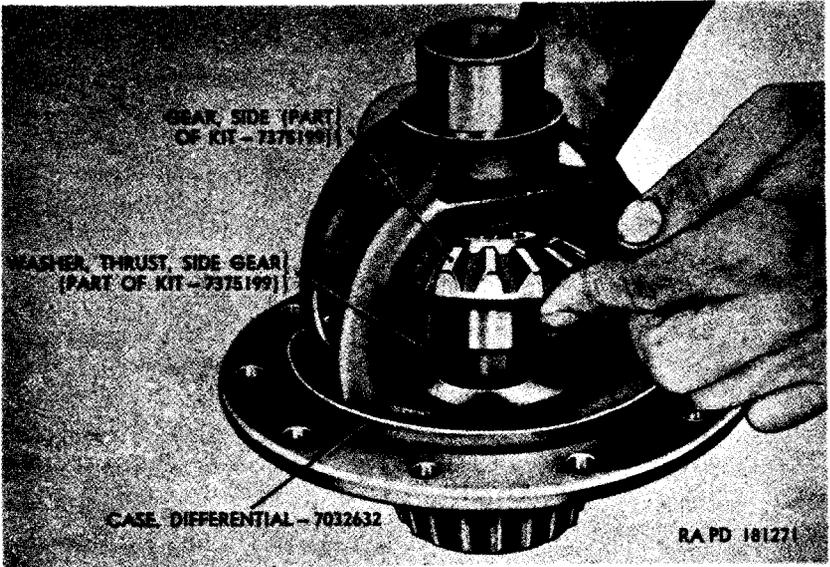
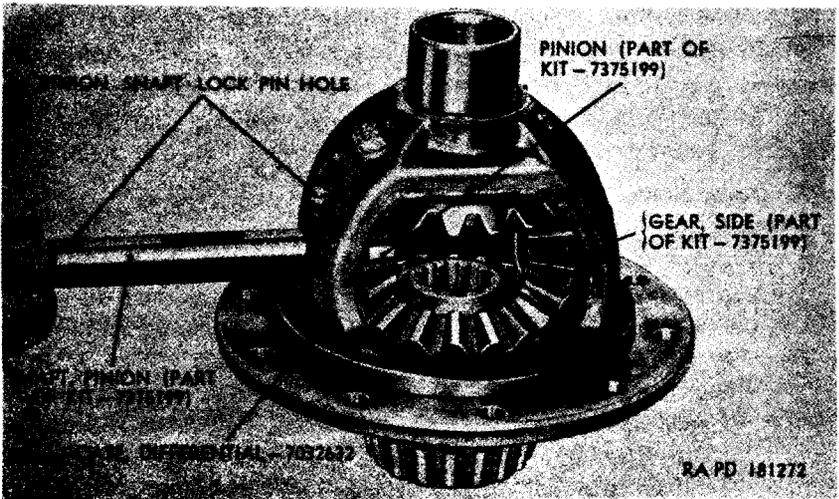
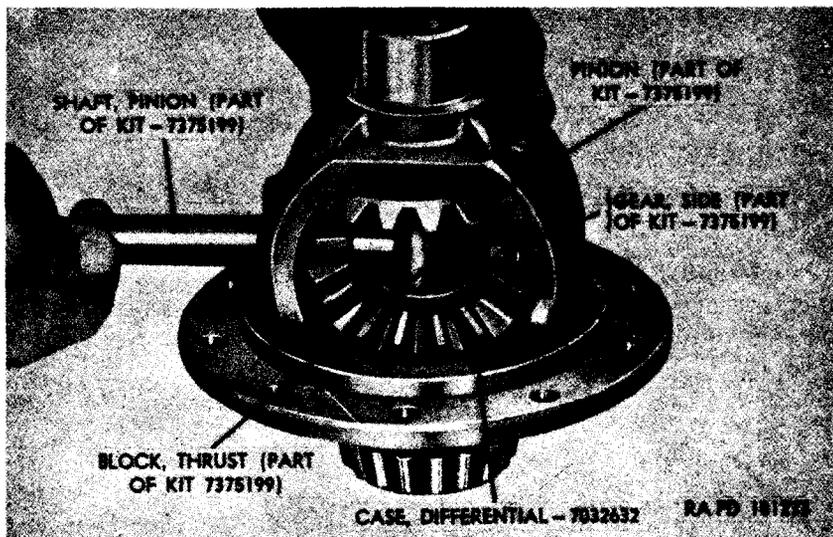

Figure 135. Installing differential side gear.
Figure 136. Inserting differential pinion shaft.
Figure 137. Installing differential thrust block.
a. Install Side Gears and Pinions (fig. 130). Position new side gear thrust washers (Y-1 and Y-5) in bore of differential case and follow by installing side gear (fig. 135). Place new pinion thrust washers (Y-4 and Y-9) on the two pinions (Y-3 and Y-8). While supporting the upper side gear in differential case, insert the two pinions through openings in differential case until they mesh with the side gears. Rotate pinions until pinion shaft holes in pinions are alined with pinion shaft holes in differential case. Insert pinion shaft (fig. 136), in differential case, making sure that pinion shaft lockpin hole in shaft will aline with corresponding hole in differential case (fig. 136). Insert thrust block (Y-7) through side gear bore in differential case. Push pinion shaft through pinions and thrust block (fig. 137). Aline holes in differential case and pinion shaft and install the lockpin (Y-10).